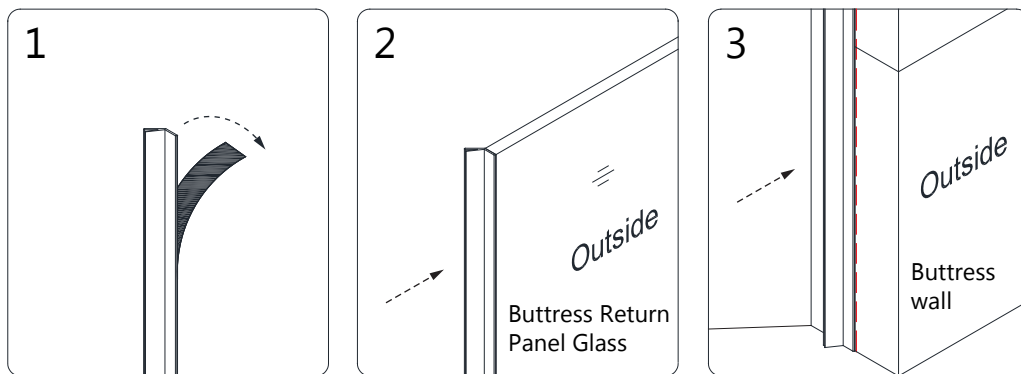

Fig 19
19. Remove the paper backing from the **135° Strike Vinyl w/VHB Tape (#05)** and press it firmly onto the vertical edge of the **Buttress Return Panel Glass (#04)** and the buttress wall along the plumb line drawn earlier. **(Fig 19)**